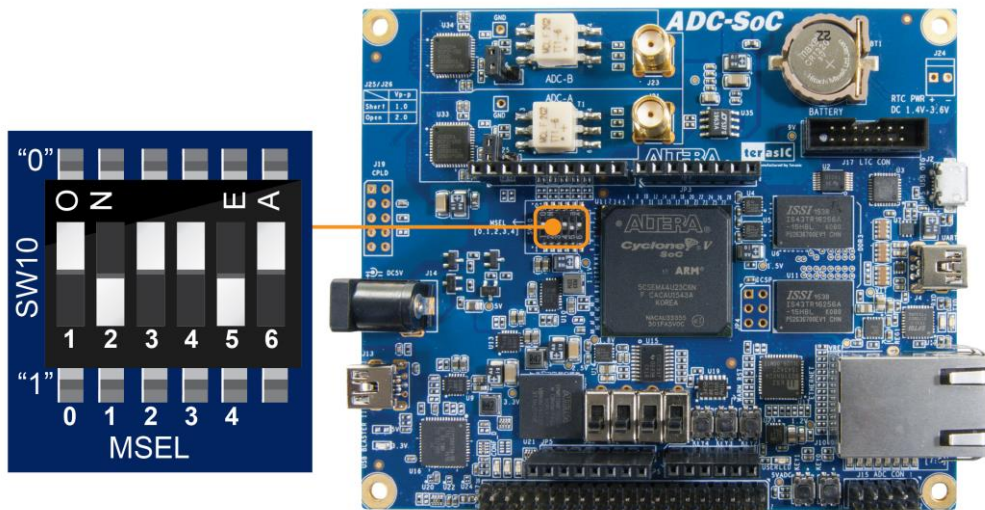

Figure 3-1 DIP switch (SW10) setting of FPP x32 mode
The MSEL[4:0] pins are used to select the configuration scheme. It is implemented as a 6-pin DIP switch **SW10** on the ADC-SoC board, as shown in **Figure 3-1**.
**Figure 3-1** shows MSEL[4:0] setting of AS mode, which is also the default setting on ADC-SoC board. When the board is powered on and MSEL[4:0] set to "10010", the FPGA is configured from EPCS, which is pre-programmed with the default code. If developers wish to configure FPGA from an application software running on Linux, the MSEL[4:0] needs to be set to "01010" before the programming process begins. If developers using the "Linux Console with frame buffer" or "Linux LXDE Desktop" SD Card image, the MSEL[4:0] needs to be set to "00000" before the board is powered on.